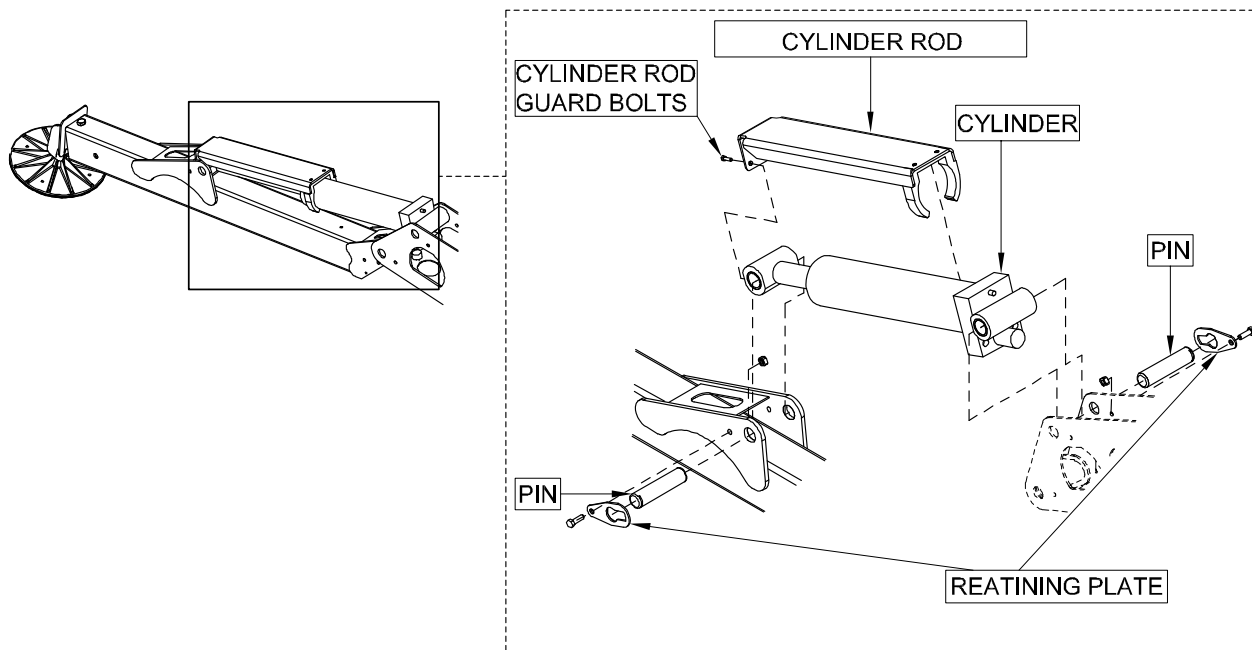

Figure 4-2 Outrigger Cylinder Replacement
- ❑ Remove the bolts securing the outrigger cylinder rod guard (Figure 4-2). Remove the guard.